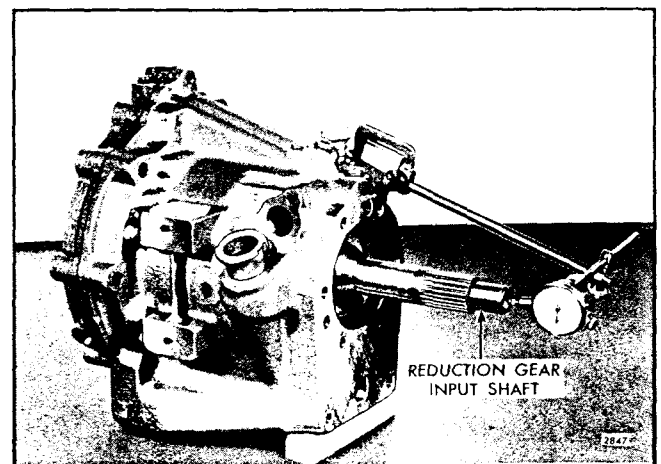

Fig. 19 - Checking Reduction Gear Input Shaft End Play
- b. Attach a dial indicator to the 1/4" -20 or 7/16" -14 bolt with the indicator button contacting the end of the drive gear input shaft or the reduction gear input shaft as shown in Fig. 19.